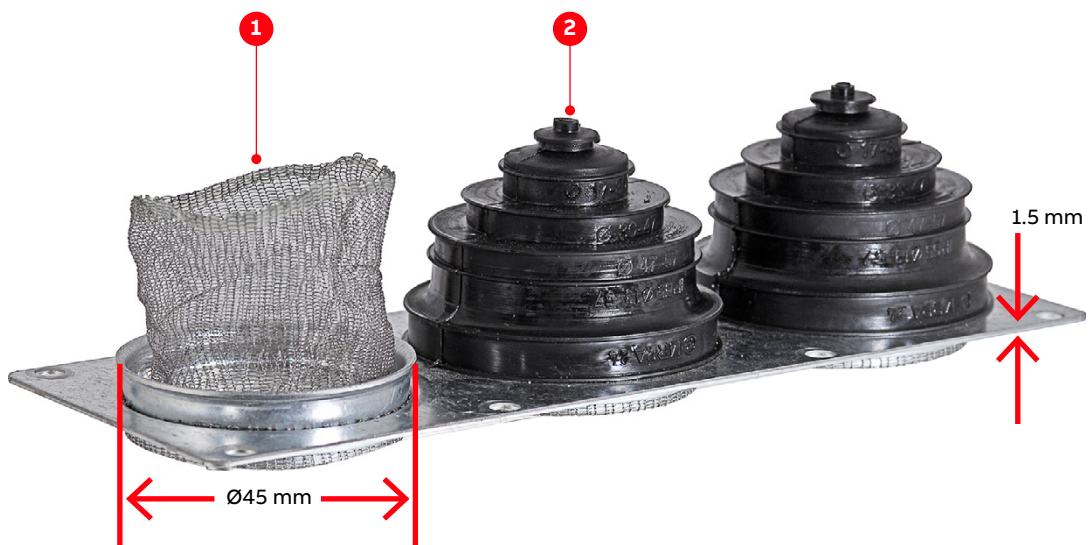

Figure 7-2: EMC plate example
- **Included in delivery:** galvanized plate with net-like EMC sleeves (1 in Fig. 7-2) and sealing grommets (2)